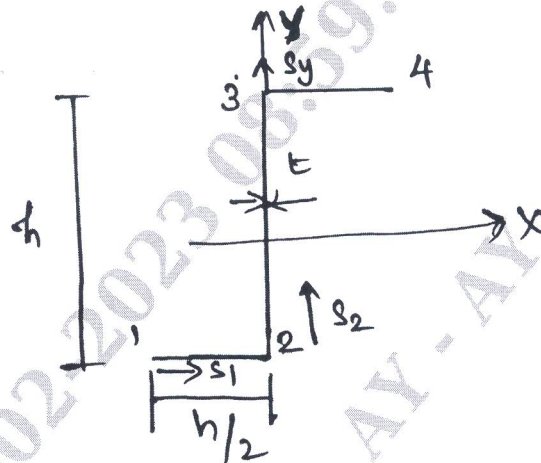

Fig.Q4(a)
- 4 a. Determine the shear flow distribution in the thin-walled z section as shown in Fig.Q4(a), due to a shear load S_y applied through the shear center of the section.